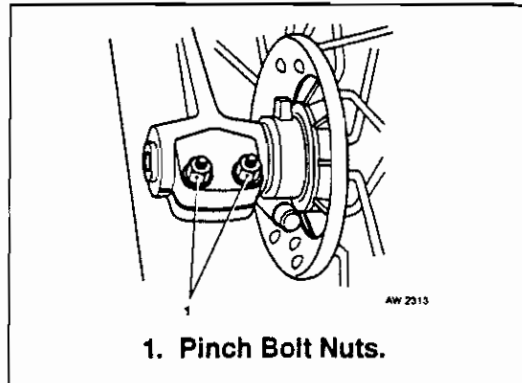

Fig 11.2 Pinch Bolt Nuts
b. Fig 11.2 refers. Loosen pinch bolt nuts on right slider. Do not remove nuts.
- f. Fig 11.2 refers. Position axle spacer between left side of wheel hub and left slider, then drive axle through spacer and slider, tapping axle with a soft faced mallet.
- j. Fig 11.2 refers. Tighten right slider pinch bolt nuts to 7 Nm (5 ft/lbs).